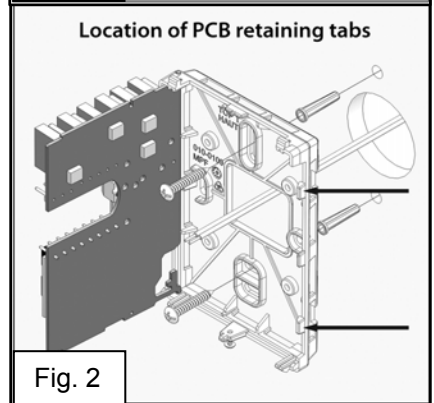

Fig. 2
1. Swing open the Terminal Equipment Controller PCB to the left by pressing the PCB locking tabs (fig. 2)
7. Insert screws in mounting holes on each side of the base (fig. 2).